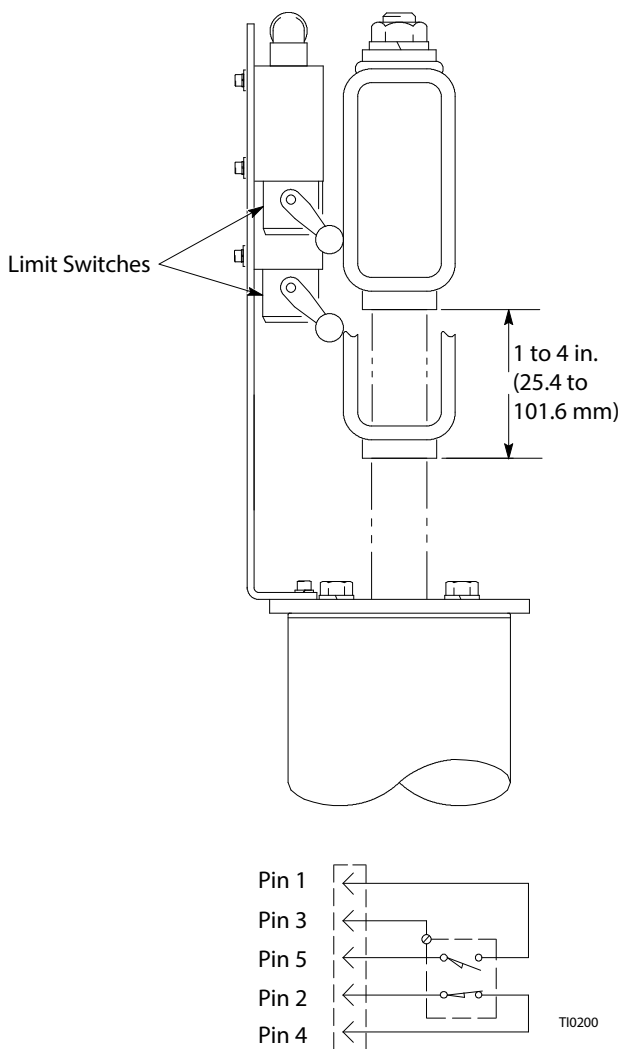

FIG. 13
- b. Verify that the Follower Plate (D) lowers to the limit set point: a level between 1 -4 in. (25.4 -101.6 mm) from the bottom of the drum.
- c. Adjust the low limit switch to activate at the level defined in step 37.b. See FIG. 13.